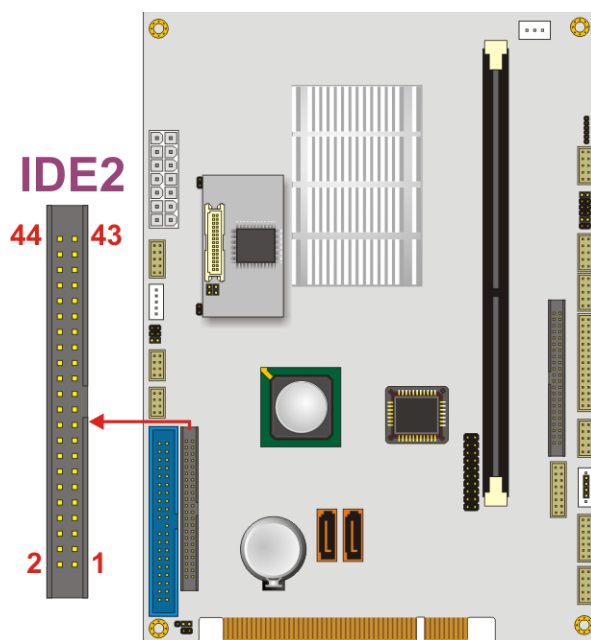

Figure 3-10: Secondary IDE Device Connector Location
- CN Location:** See Figure 3-10